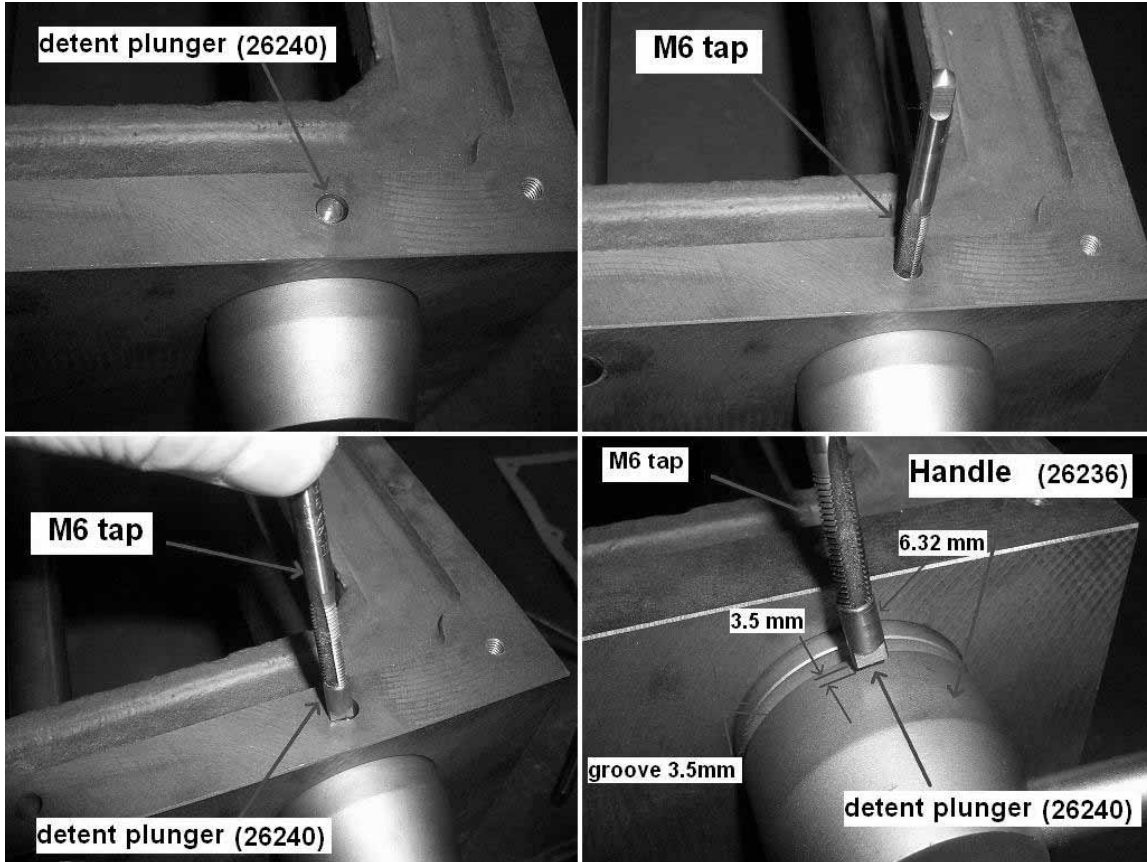

Figure 5-8
2. Locate the set screws as shown in figure 5-8.